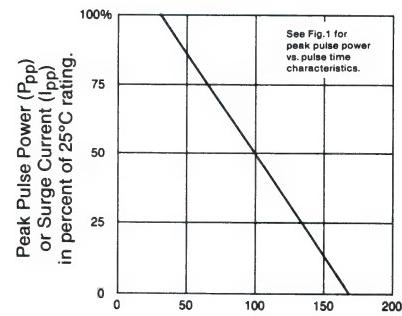

**FIGURE 1**
3000 Watts of Peak Pulse Power dissipation at 50ms (see Figure 1)
m.m. **FIGURE 1**